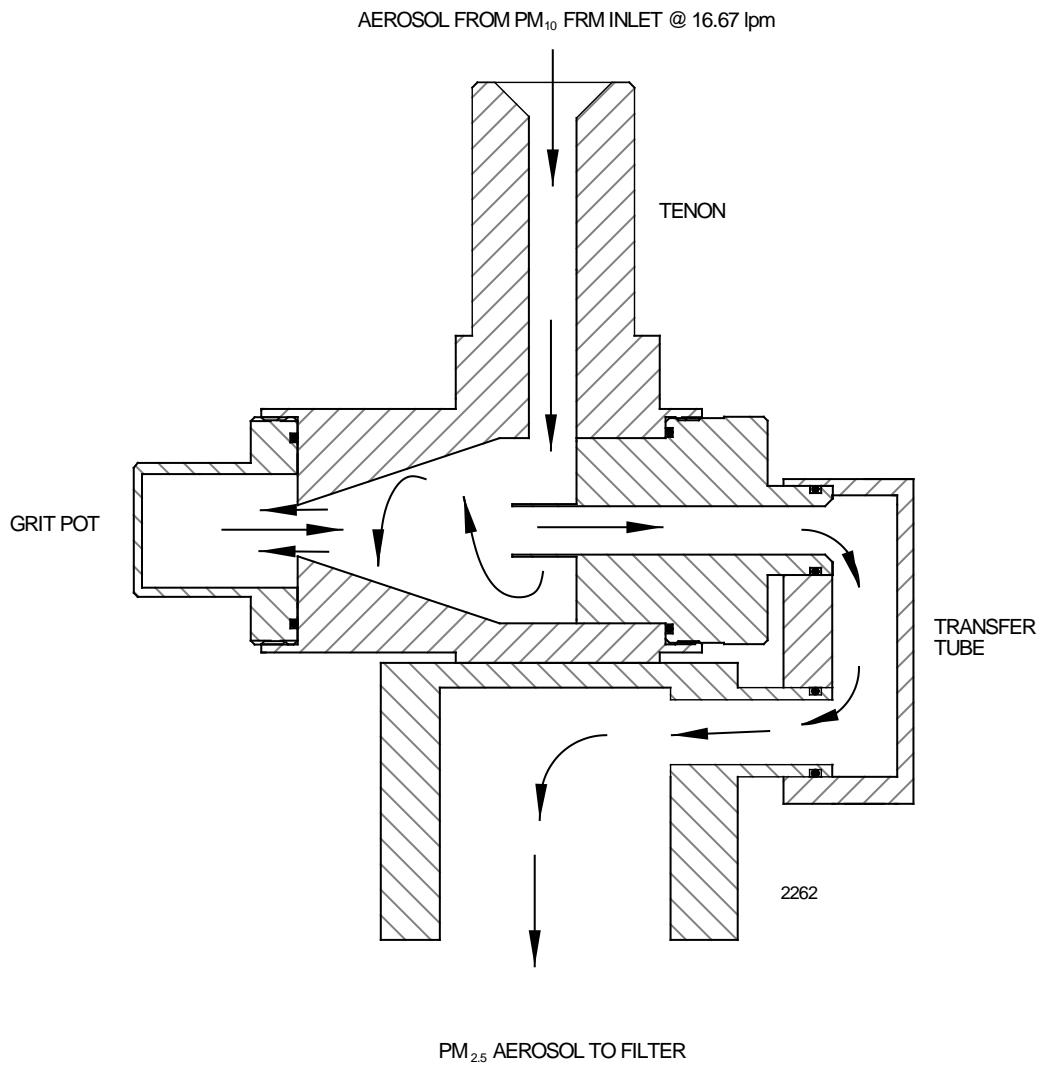

Figure 1: BGI Very Sharp Cut Cyclone (VSCC®) Flow Path
BGI manufactures two versions of the VSCC®. They are the VSCCA®, which is a direct replacement for any commercial FRM system utilizing the standard WINS impactor, such as the Rupprecht & Patashnick (Partisol™), Graseby/Anderson (RAAS™ with use of exit adapter 2302). The VSCCB® is intended for installation only in the BGI PQ200 and PQ200A FRM samplers. See Figures 1 through 4.
The flow path through a VSCC® is shown, in a cut-away view in Figure 1. PM10 "Coarse" aerosol enters tangentially after being pre-separated by the PM10 FRM inlet. Particles greater than PM2.5 (MMD-AED) are removed to the grit pot on the side of the VSCC® and the PM2.5 sample is ducted through the cyclone separator to the filter holder. Field and laboratory tests indicate the VSCC® can operate up to a period of 90 days between cleaning frequencies, even in high urban loading sites.
Step 5. Replace the upper WINS housing with the VSCC® upper adapter. (See Figure 1 and 4b). The male tenon of the VSCC® should pass through the top of the sampler weather seal.